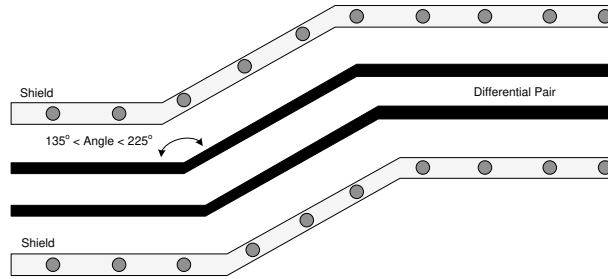

Figure 9-15. USB Routing Example
- Ensure that the bend angles associated with the differential signal pair are between 135° and 225°. (See Figure 9-15.)